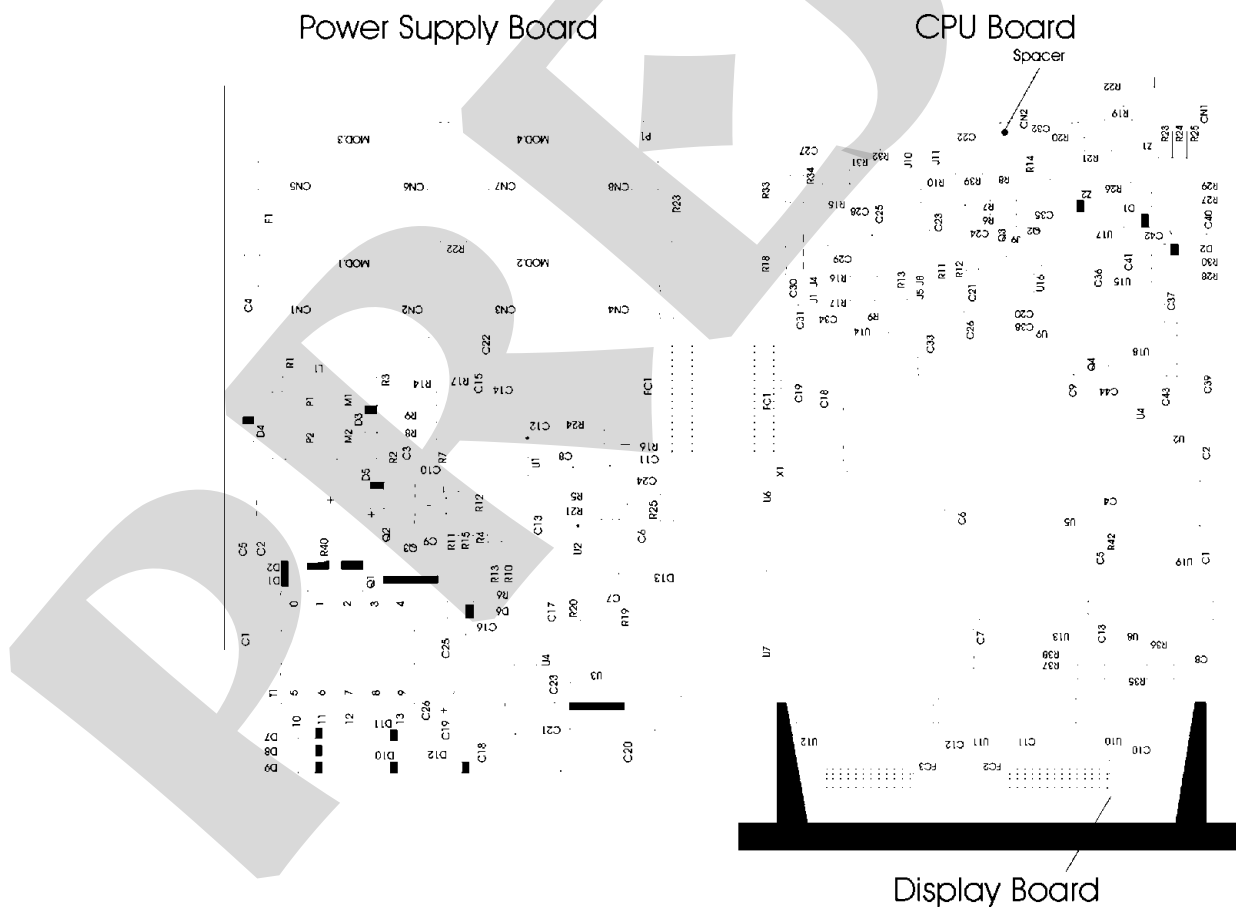

Fig. 16 - Indicator hardware
- iv) Move the Power Supply Board to the right and open the boards according to Figure 16.
Verify the integrity of fuse F1 of 2.0 A placed in the Power Supply Board as shown in Figure 16. Due to its package it is necessary to check the fuse continuity in order to detect if it is broken.